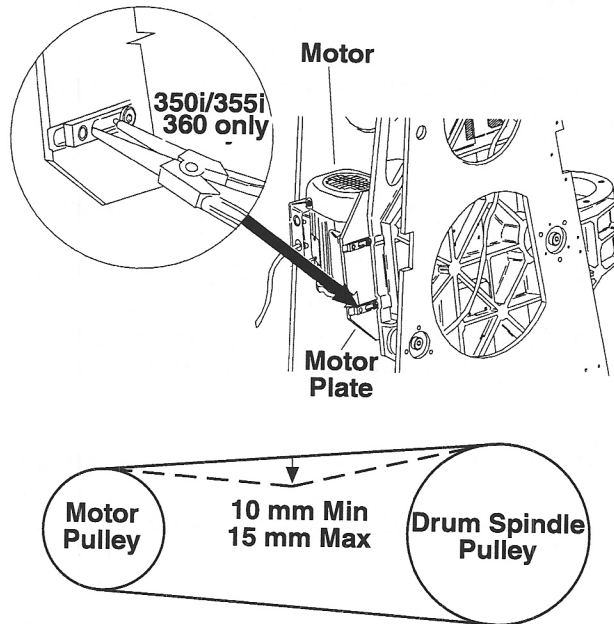

Fig 5.16: Belt Tension
2. Slide the motor to tension the belt. (On 350i/355i you may use the external circlip pliers inserted between the end of the nut plate cutout and its retaining screw as illustrated in Fig 5.16 Adjust the bottom of the plate first. Closing pliers tightens belt).